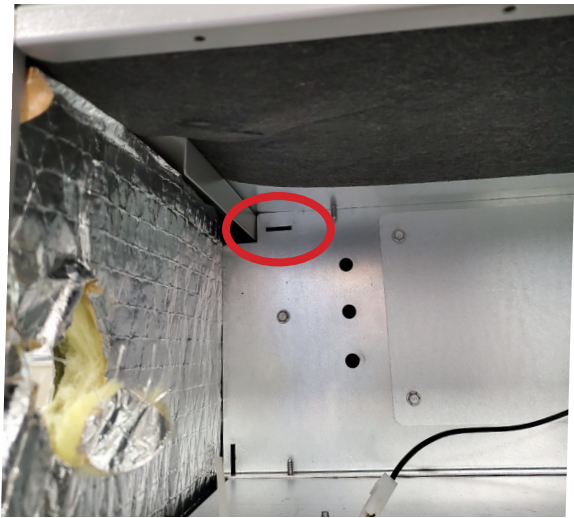

Figure 12. Notch for Control Panel Relocation
2. Slide the control panel into the notch on the electric heat mounting panel (Figure 12). Using the screws removed in Step 1, secure the control panel to the end panel.